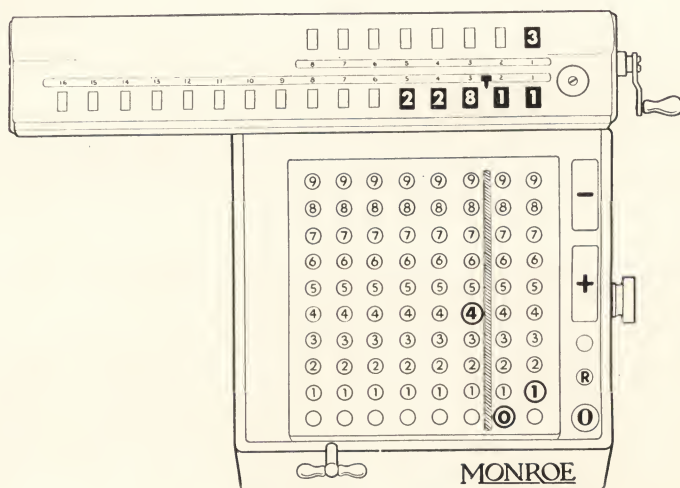

Figure 14
*Step 3*—Continue same routine for each extension, in each case clearing only the upper dials. After completing the last extension the lower dials show 228.11, checking the total of the invoice as shown in Figure 14.